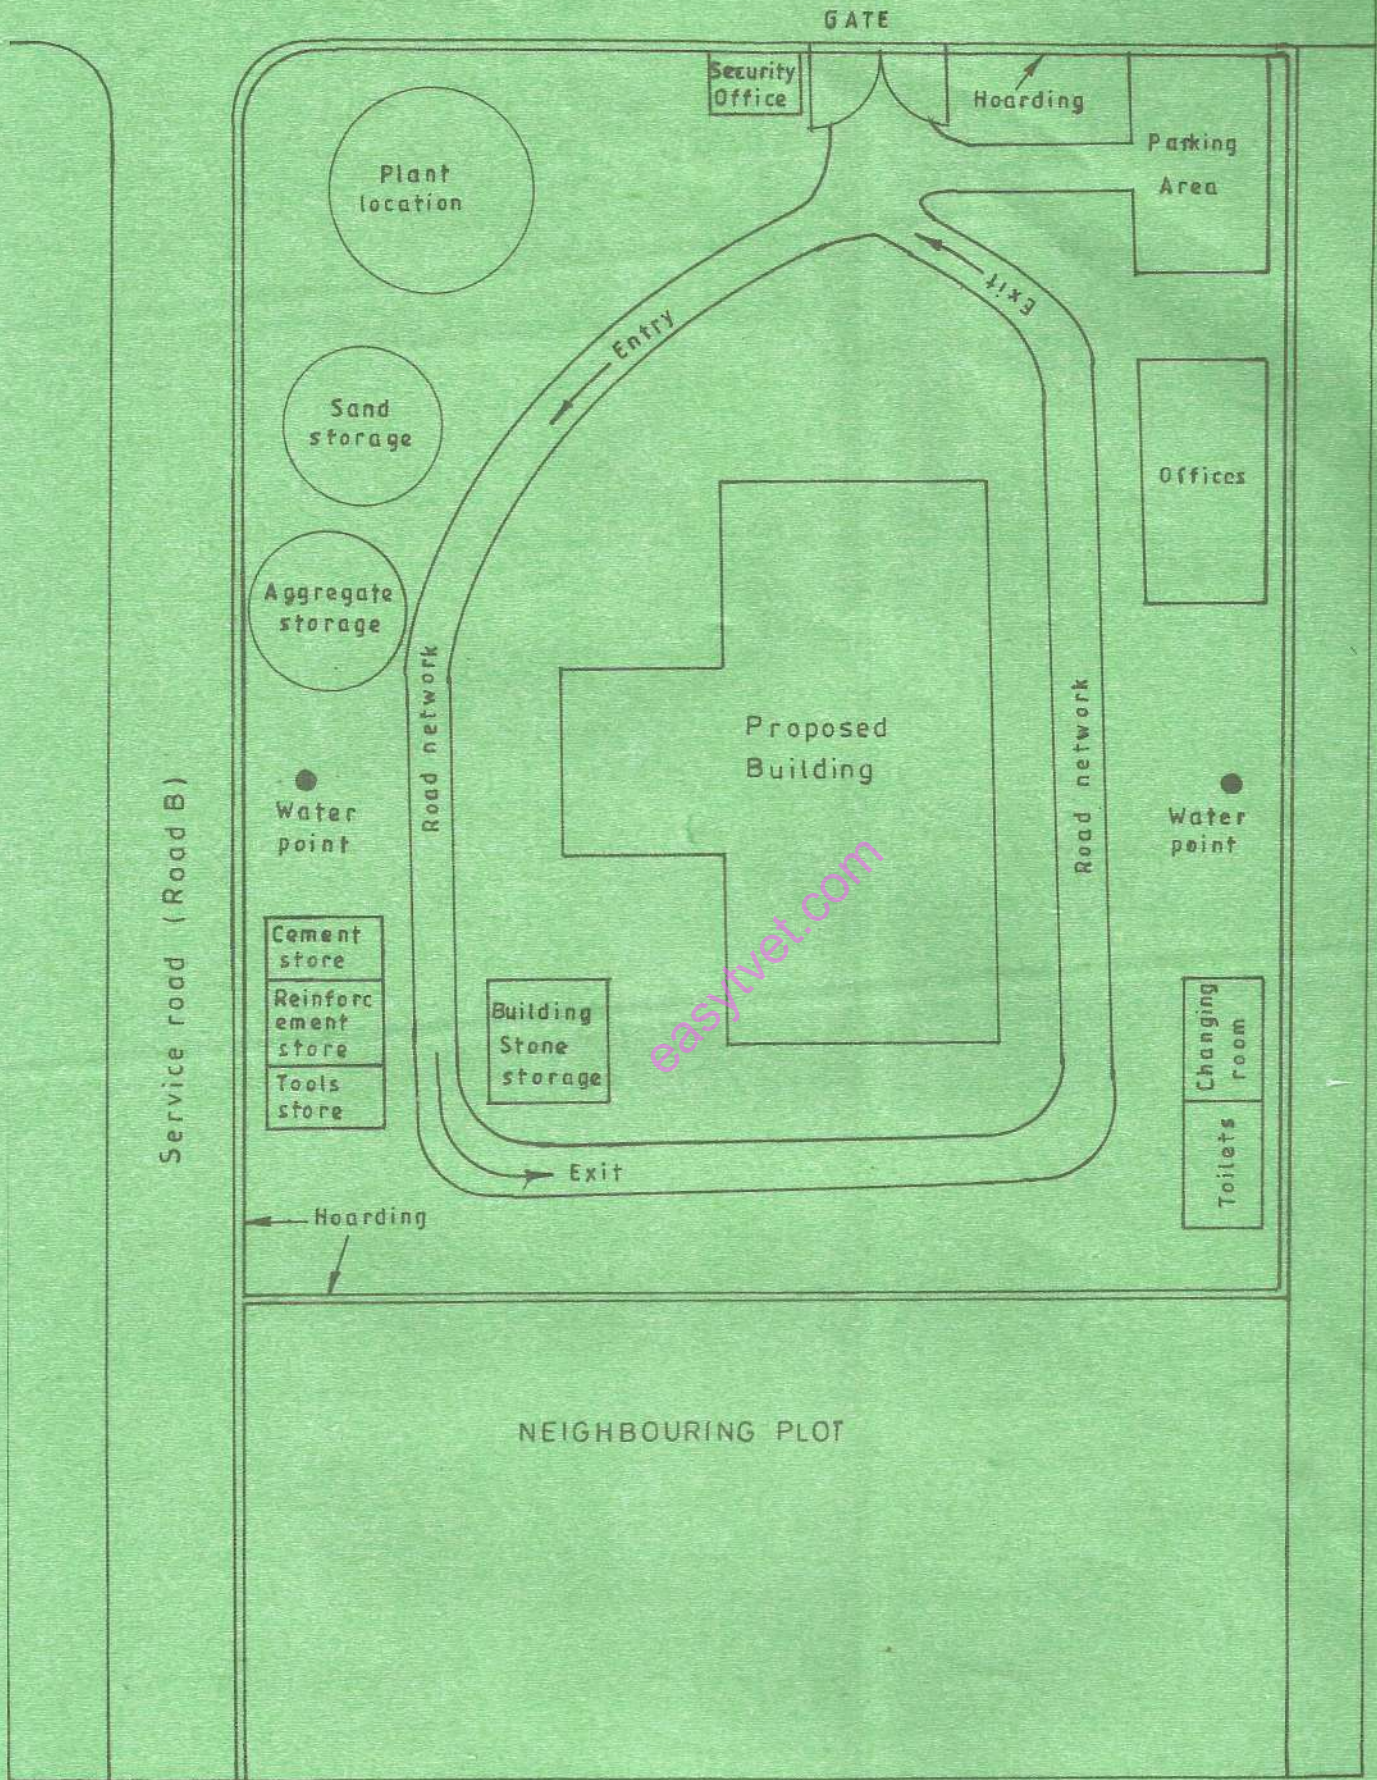

Fig. 1
5. **Figure 1** shows a site organization plan of a construction project.